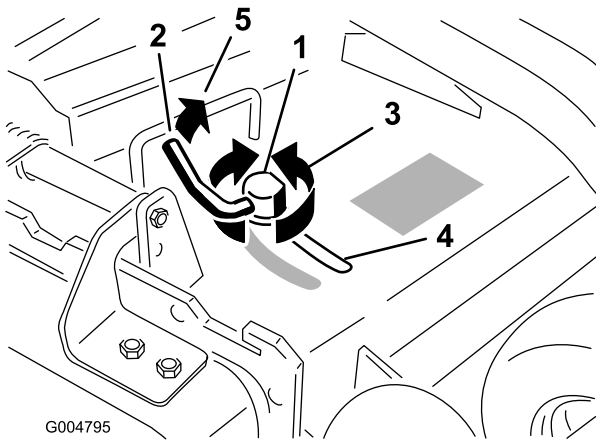

Figure 19
- To adjust the cam lock, swing the lever up to loosen the cam lock (Figure 19).
5. Swing the lever back over to tighten the baffle and cam lock (Figure 19).